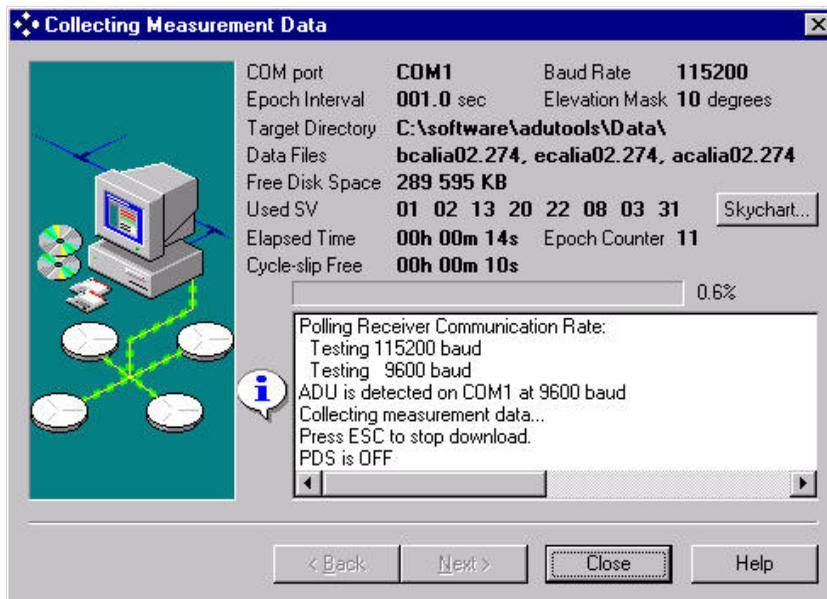

Figure 4.3 Collecting Measurement Data dialog
| Collecting Measurement Data Figure 4.3 | A display-only dialog. Shows the status of the data logging session. | 35 |
7. Click **Next**. The **Collecting Measurement Data** dialog appears, as shown in Figure 4.3.